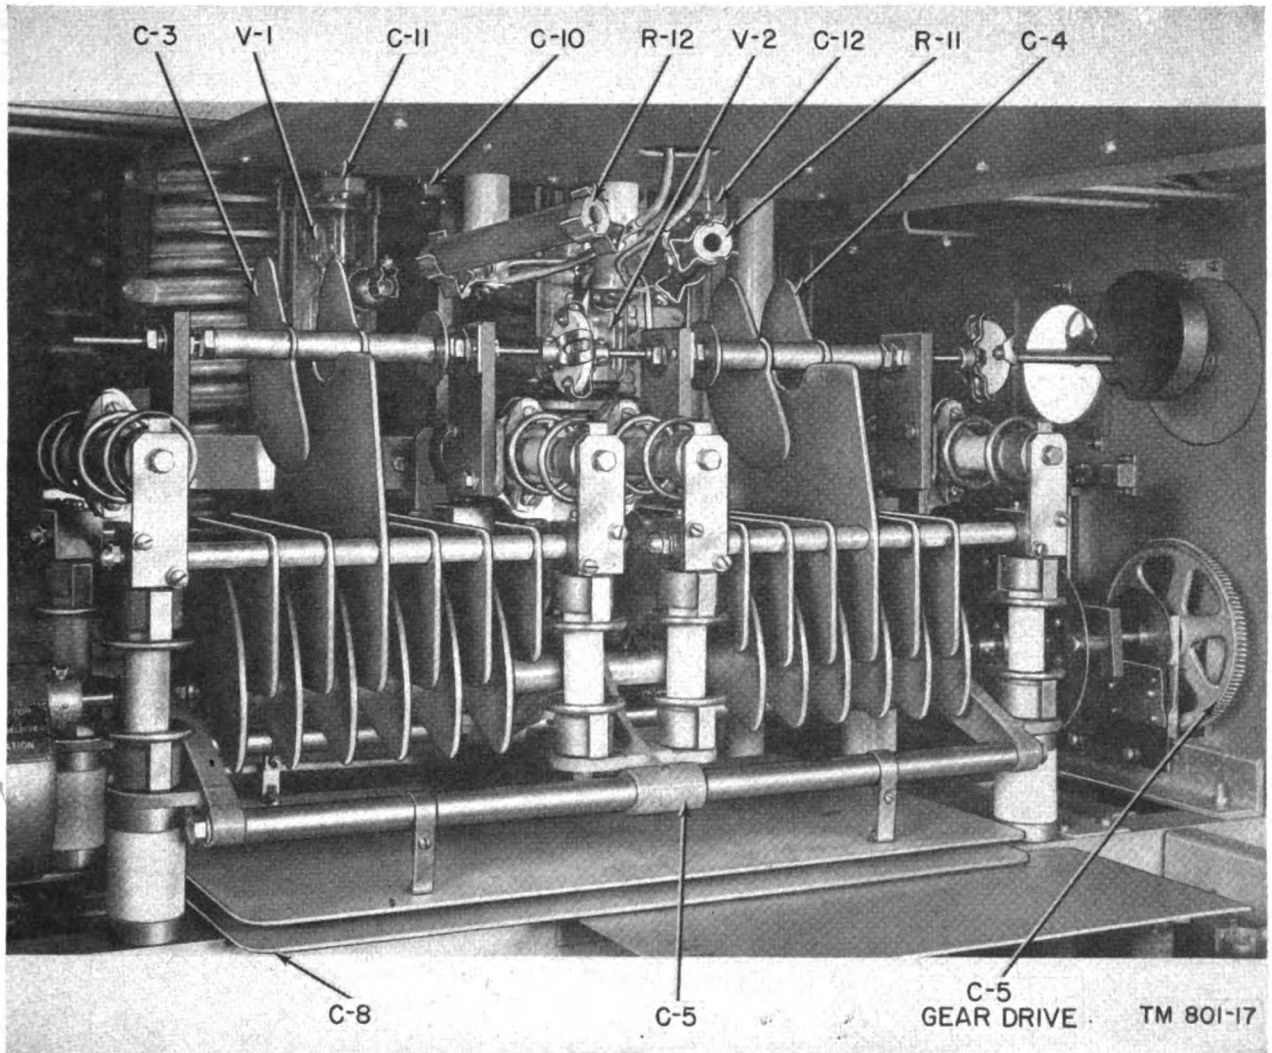

Figure 22. Plate tuning capacitor (C-5) assembly, including C-3, C-4, and C-8.
- (2) Mount the input circuit assembly onto the top shelf. Position the assembly so that the switch contacts (SW-1) face the rear of the unit and the protruding shafts face the front panel. The assembly is fastened onto the grid shelf with two angle iron mounting brackets, one at each micalex strip. The component should be carefully aligned, so that mechanical connections can be made between the shafts of C-1, C-2, and SW-1 and the drive shafts that extend to the dials on the front of the unit. Mechanical connection is made by inserting the shafts into their respective insulator connector assemblies and tightening the setscrews. Mechanically connect C-1 and C-2 when in full mesh and with the dial at 0. Mechanically connect SW-1 when coil L-1 has maximum inductance (greatest number of turns) and the switch is in position 1.
c. PLATE TUNING CAPACITOR (C-5), NEUTRALIZING CAPACITORS (C-3 AND C-4), AND R-F BYPASS CAPACITOR (C-8). These units comprise one assembly (fig. 22). The upper plate of the r-f bypass capacitor, C-8, is the base plate of the over-all capacitor assembly, and the other plate of this capacitor is